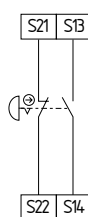

Fig. 11
**Dual-channel emergency stop circuit with command devices to ISO 13850 and IEC 60947-5-5 (Fig. 11)**